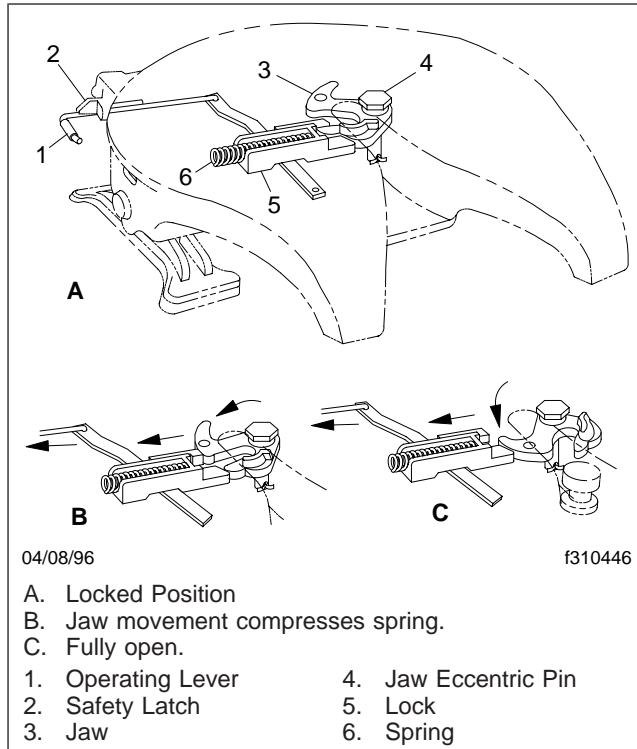

Fig. 10.12, ASF Castloc II and Simplex Series Kingpin Locking Mechanism Operation
Fifth Wheel Lock Mechanism for Trailer Kingpin (Fig. 10.12)
4. Position the tractor so that the center of the fifth wheel is in line with the trailer kingpin. The kingpin should be in a position to enter the throat of the locking mechanism. See **Fig. 10.12**. Adjust the trailer landing gear so that the lower front trailer edge contacts the top surface of the tilted fifth wheel plate, approximately 8 inches (20 cm) before the fifth wheel center.